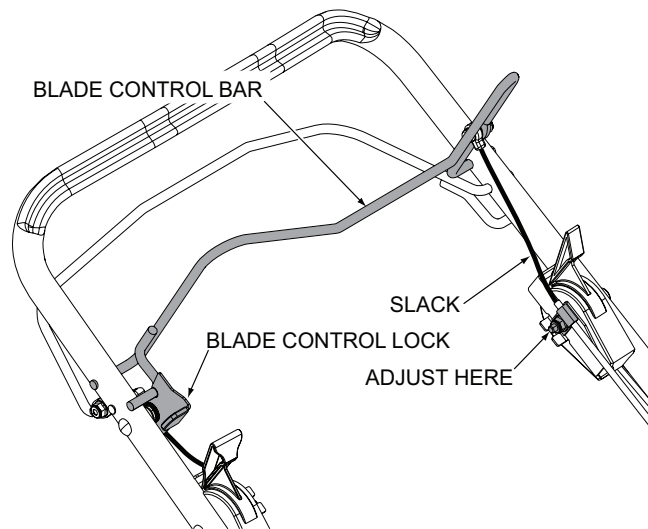

Figure 6-6. Deck Drive Cable Adjustment
3. With the blade control bar released, loosen the clamp securing the blade control cable to the blade control bar. See Figure 6-6.
4. Adjust the cable until there is a small amount of slack in the cable between the blade control bar and cable sheathing. See Figure 6-6.